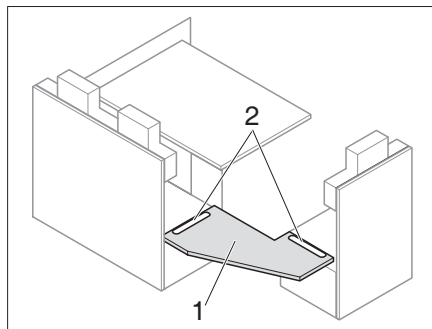
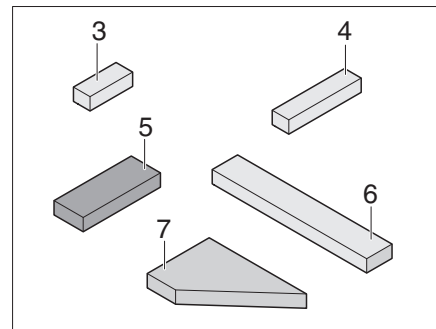
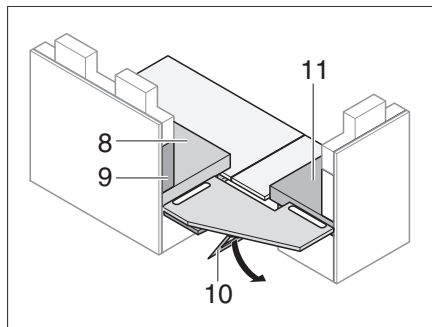
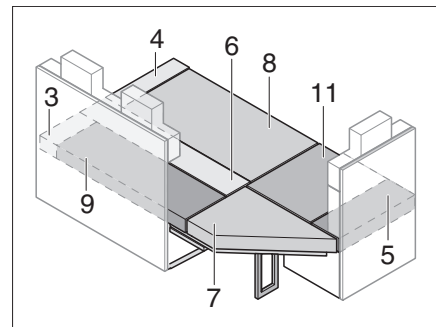

Fig. 176 Inserting the reinforcement panel
Fig. 177 Additional cushion
Fig. 178 Supporting reinforcement panel
Fig. 179 After conversion
- Insert the reinforcement panel (Fig. 176,1) into the grooves (Fig. 176,2).
- Fold out the support (Fig. 178,10) under the reinforcement panel (Fig. 176,1).
- Lay on the seat, backrest and additional cushions as shown in Fig. 179 (the item numbers refer to Fig. 177 and Fig. 178).
- Fold out the bench seat extensions (Fig. 176).